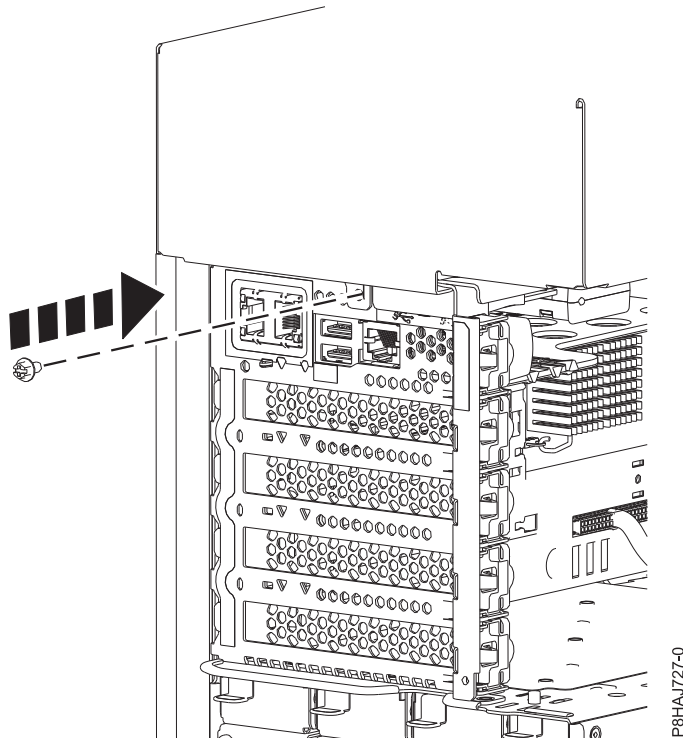

Figure 38. Installing the 8286-41A side cover screw
5. Install the side cover rear screw with a Phillips screwdriver as shown in Figure 38 on page 52.